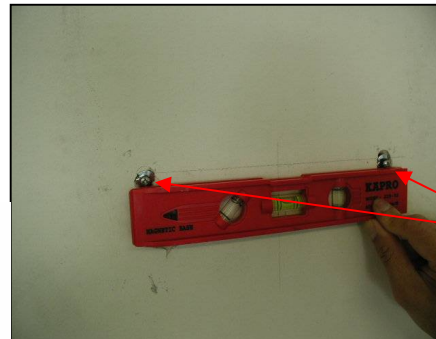

Figure 11
4. Using references on Table 2 and measurements on page 15, decide the leveling point of the hood. Position two mounting screws (not provided) on the wall, leaving 1/8" away from the wall as shown in Figure 11.